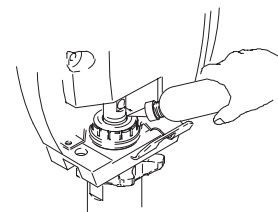

Fig. 21
- Fig. 21. Fill packing nut with Graco TSL until fluid flows onto the top of seal.